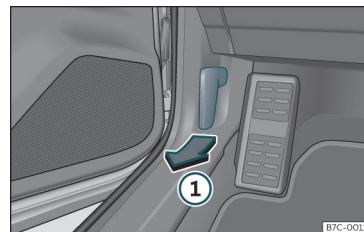

Fig. 9 Release lever in the driver's footwell area.
- Open the door and pull the lever under the dashboard >>> **Fig. 9 ①**.